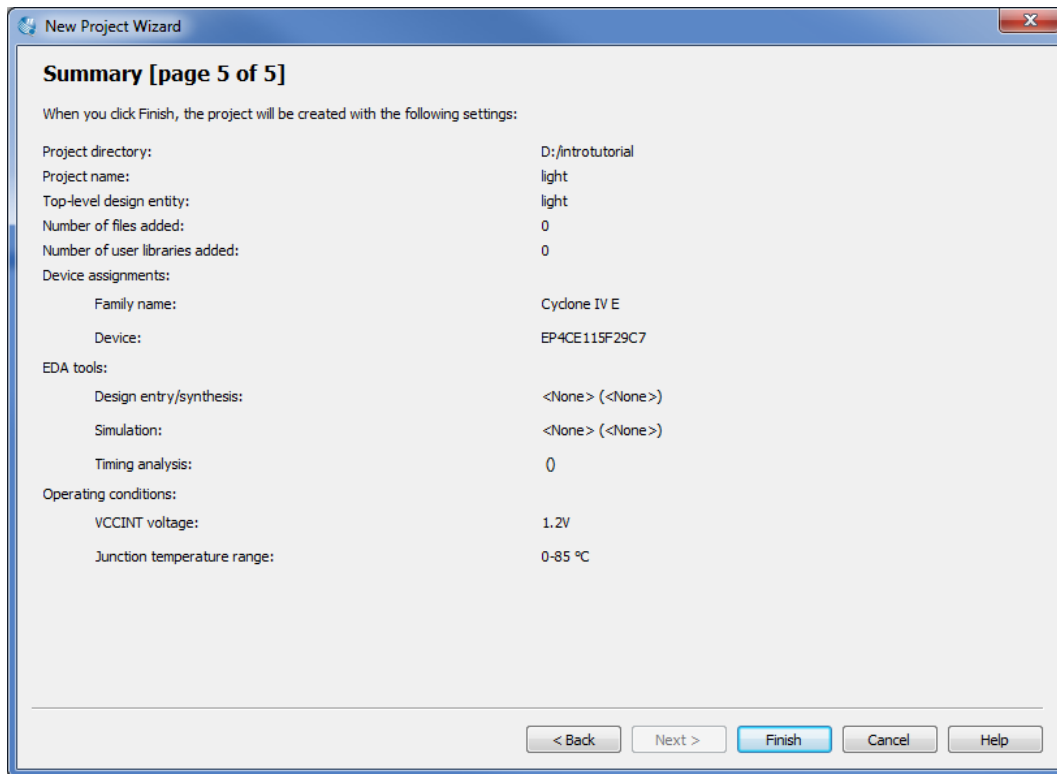
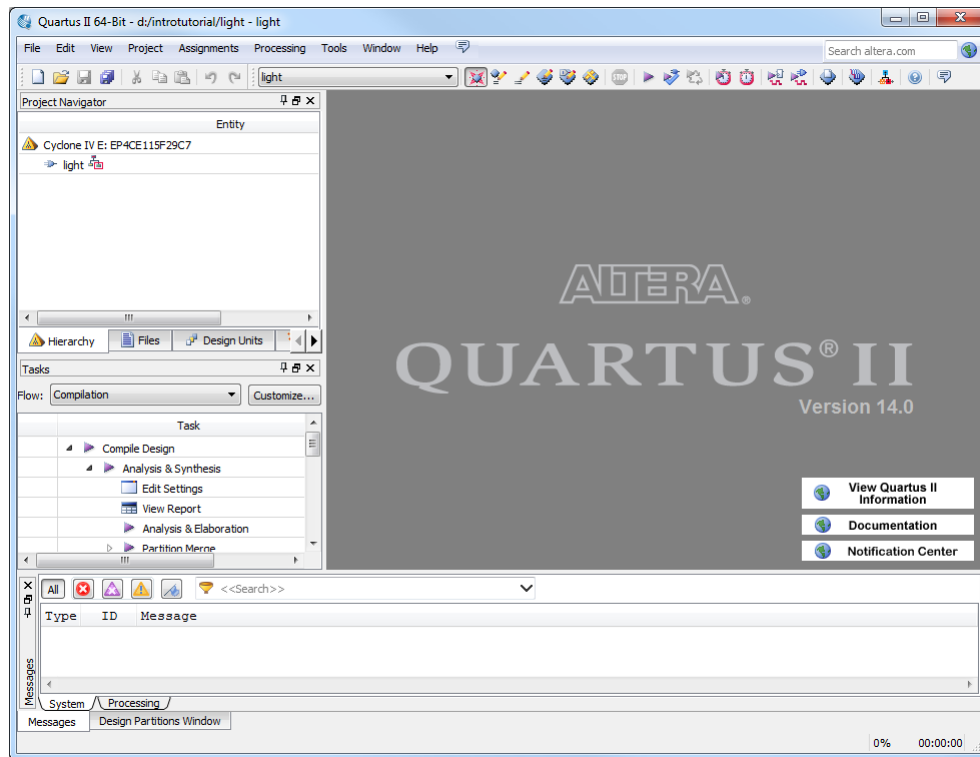

Figure 9. Example summary of a DE2-115 board project settings.
Figure 10. The Quartus II display for created project on a DE2-115 board.
6. A summary of the chosen settings appears in the screen shown in Figure 9. Press **Finish**, which returns to the main Quartus II window, but with *light* specified as the new project, in the display title bar, as indicated in Figure 10.